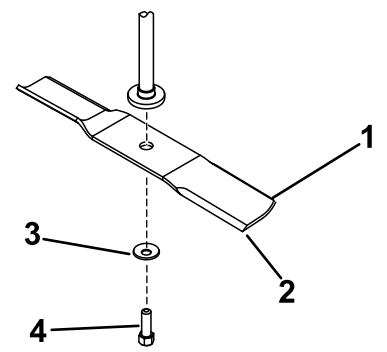

Figure 48
Hold the blade end using a rag or thickly-padded glove. Remove the blade bolt, curved washer, and blade from the spindle shaft (Figure 48).
1. Install the blade onto the spindle shaft (Figure 48).
2. Install the blade stiffener, the curved washer (cupped side toward the blade) and the blade bolt (Figure 48).